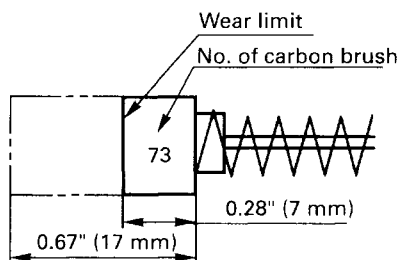

Fig. 17
4. Inspecting the carbon brushes: (Fig. 17)
NOTE: Use HITACHI carbon brush No.73 indicated in Fig. 17